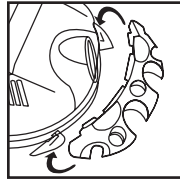

FIGURE 8
8. With rear of unit facing you, take tool holder and position it with tabs facing rear of unit. **FIGURE 8.**